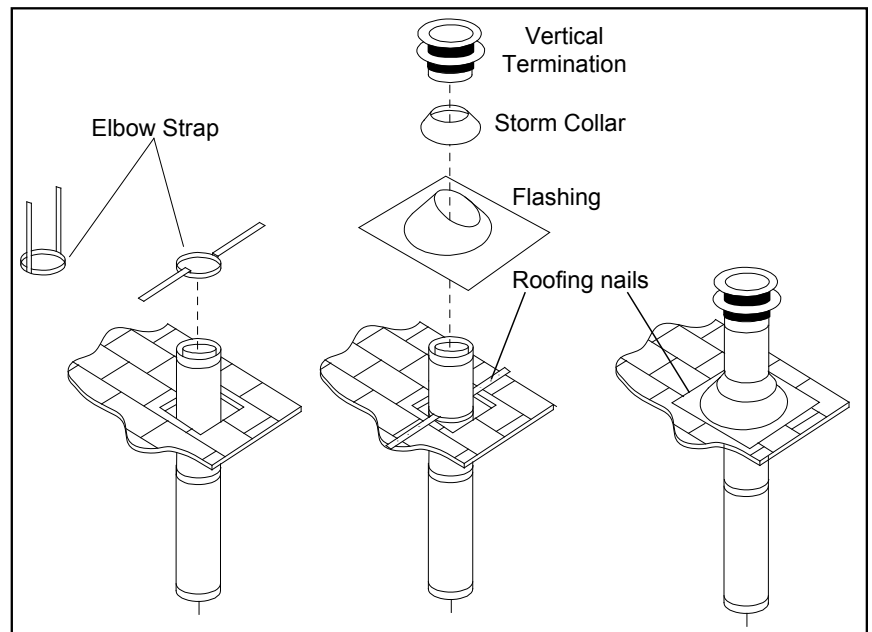

Figure 62: Vertical Vent Termination
- Step 3.** To install the Round Support Box/Wall Thimble in a flat ceiling, cut a **10" (25.4 cm)** square hole in the ceiling, centered in the hole drilled in Step 2. Frame the hole as shown in Figure 62.
- Step 6.** Once the pipe sections have been joined, and run up through the hole in the roof, slip an elbow strap over the exposed sections, bend the support straps outwards, and push the elbow strap down to the roof level, as shown in Figure 62. Tighten the clamp around the pipe section. Use a level to make sure the pipe is truly vertical. With roofing nails, secure the support straps to the roof. Seal the nails holes heads with non-hardening mastic. Trim the excess length of the support straps that extend out beyond the edge of the flashing.
- Step 9.** Slip the storm collar over the pipe, and push it down to the top of the roof flashing as shown in Figure 62. Use the non-hardening sealant around the joint between the pipe and the storm collar.